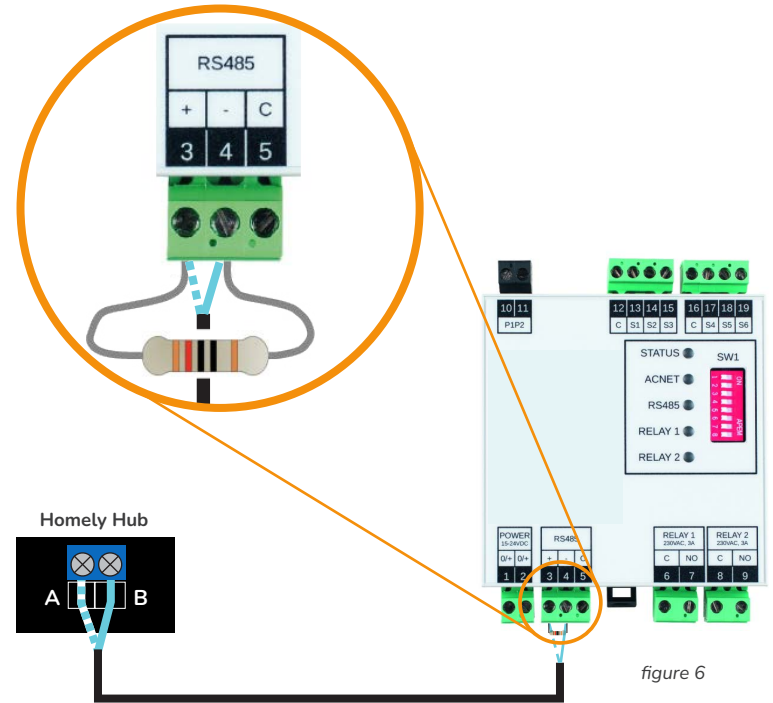

figure 6
3. Connect the supplied 120-ohm resistor between the controller terminals as shown on the next page (figure 6).